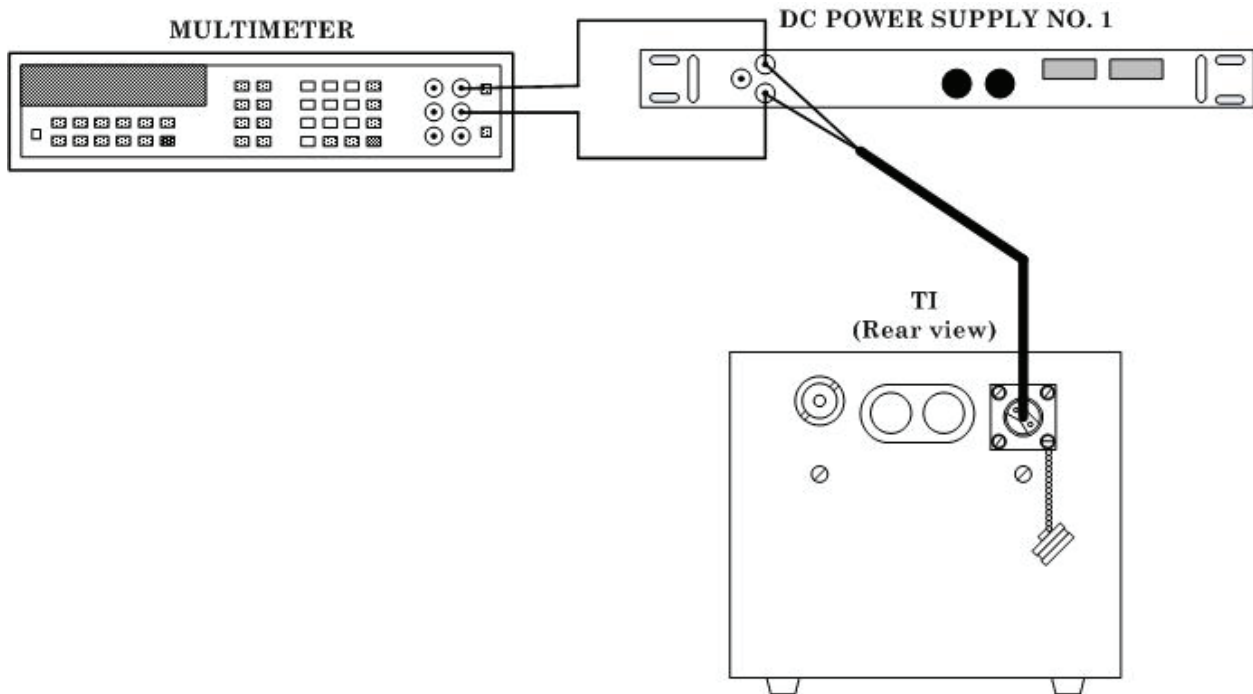

Figure 1. Equipment setup.
- a. Connect equipment as shown in figure 1.